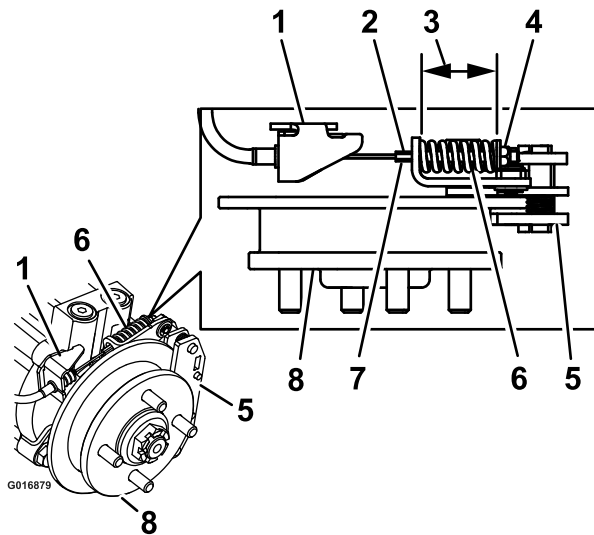

Figure 31
9. Hold the threaded rod end with a tool and adjust the lock nut until the spring length is between 1 1/2–1 9/16 inches (3.8–4.0 cm) see Figure 31).